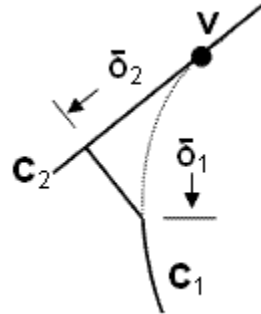

Figure 1. Collapse angle syntax
The collapse angle command is used to eliminate small angles at vertices, where curves meet at a tangential point. The command will split each curve at a specified distance (δ_1 and δ_2) as shown in Figure 1, and create two new vertices along those curves. The remaining small angle will be composited into its neighboring surface using virtual geometry. One of two methods may be used for specifying options for the **collapse angle** command: **(1) Simple**, and **(2) Complete** as described below:
(1) Simple
The **arclength** option will split each curve at a specified distance δ_1 and δ_2 , (See Figure 1) measured from the vertex. You must input at least one **arclength** for each of the options listed below.